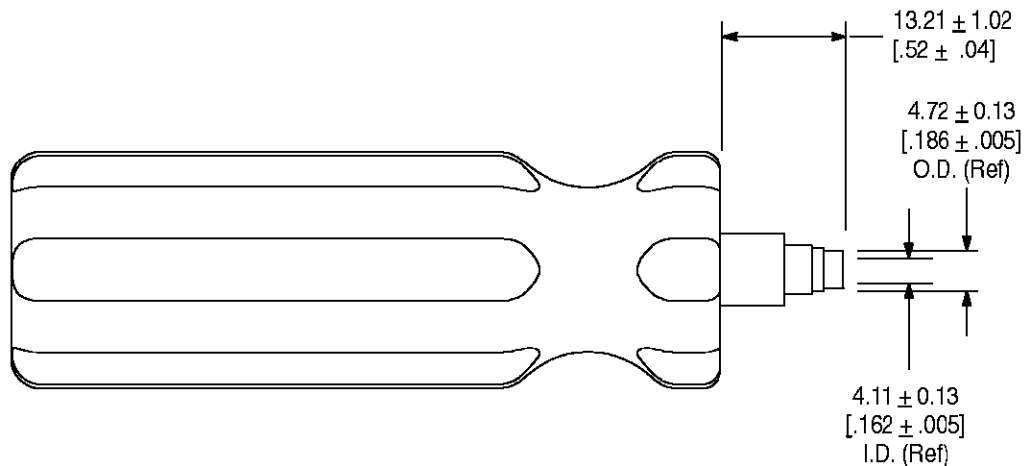

Figure 5
Insertion Tool 852115-1 is inspected before shipment. It is recommended that the tool be inspected immediately upon arrival at your facility to ensure that the tool has not been damaged during shipment, and that the tool conforms to the dimensions provided in Figure 5.
- Revised Figure 5